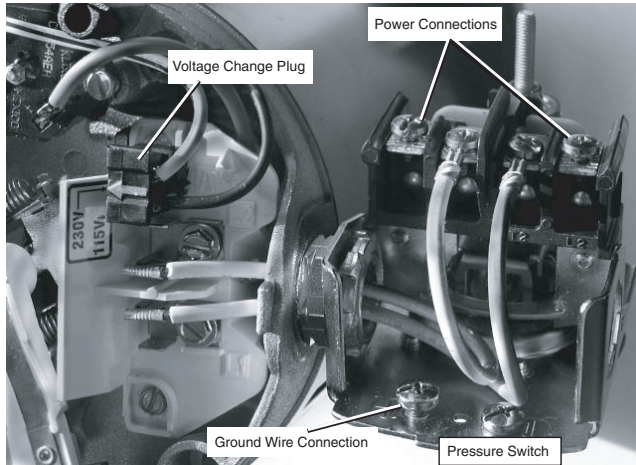

Figure 9: Voltage set to 230 volts, Plug Type
4. Attach the incoming power leads to the two outer screws on the pressure switch as shown in Figure 9.
5. Attach the ground wire to one of the grounding connections, shown in Figure 9.
Wiring (Figure 9)